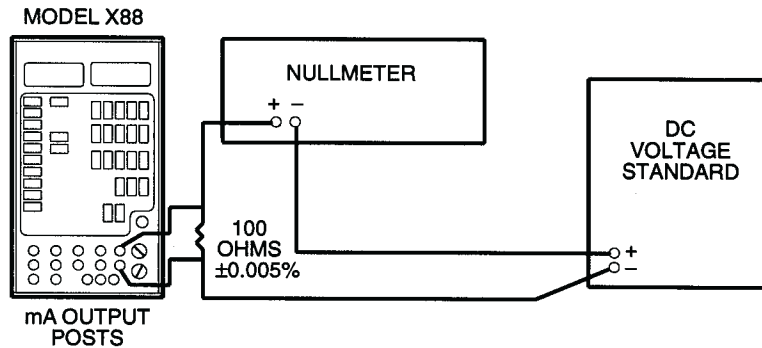

Figure 4-6: Current Output Measurement.
4.3.3 mA Output Adjustment: Connect the Model X88 Calibrator, the dc voltage standard, the 100-ohm precision resistor and the nullmeter as shown in Figure 4-6. NOTE: The voltage output calibration steps must be performed before the mA output adjustment is done.